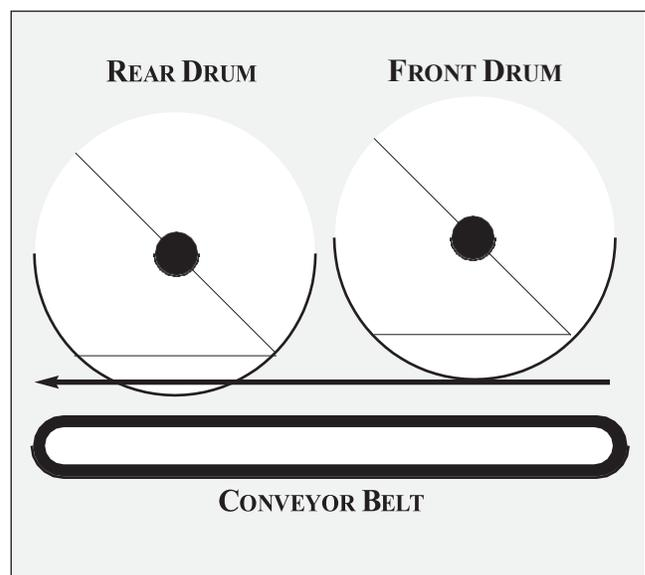

Fig. 14. Relative positions of dual drums.
**Secondary Drum.** On dual drum models, sanding with a different abrasive grit on each drum is possible in a single pass. The coarser abrasive is wrapped on the primary (front) drum for dimensioning and surfacing of the wood, while the finer abrasive is wrapped on the secondary (rear) drum. When used in this way, the secondary drum generally is positioned just slightly lower than the primary drum so it removes the scratches left by the coarser grit on the primary drum (Fig. 14).